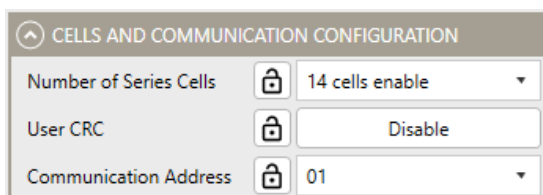

Figure 7: Cells and Communication Configuration
- Figure 7 shows the Cells and Communication Configuration settings in the GUI.